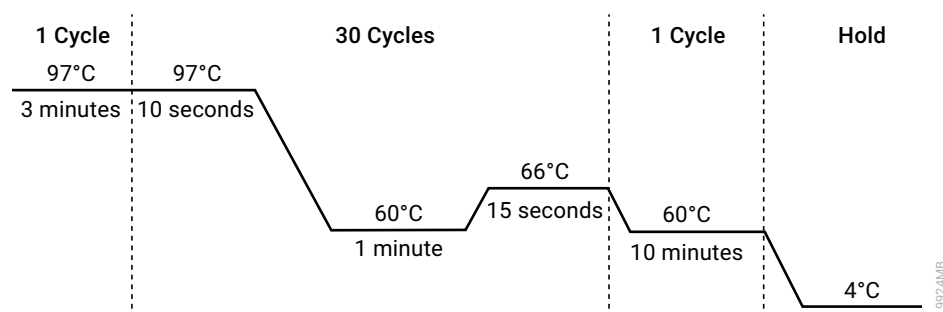

Figure 4. Thermal cycling protocol for the Mastercycler® X50s System.
- Select and run the protocol provided below and in Figure 4. The total cycling time is approximately 75 minutes.